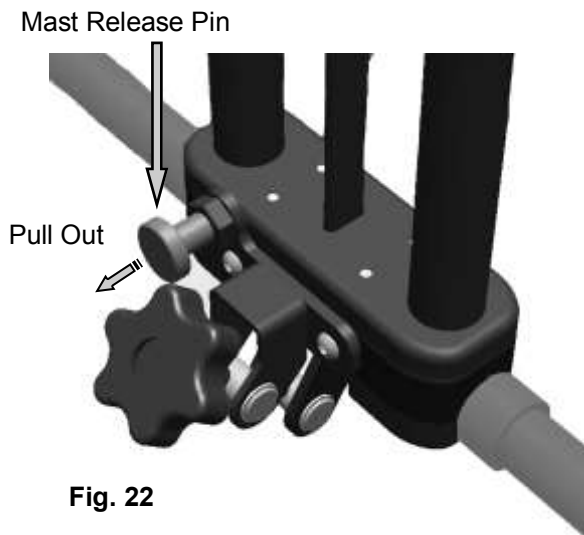

Fig. 22
- The mast may be removed by pulling outward on the release pin and rotating until it is in the lockout position (fig. 22). The mast can now be lifted off of the base assembly.